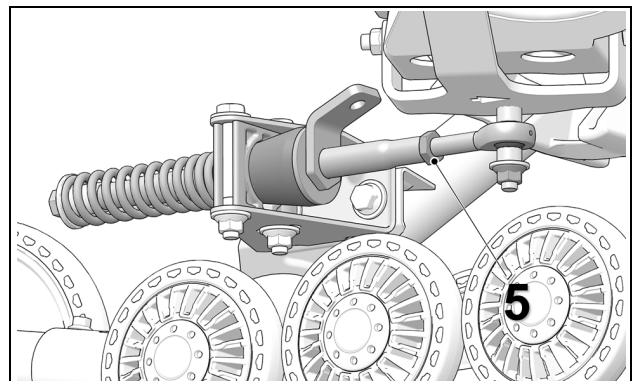

Figure 16
- Re-tighten jam nut (5) to 40 N•m [30 lb-ft] of torque when adjustment is complete. Figure 16.